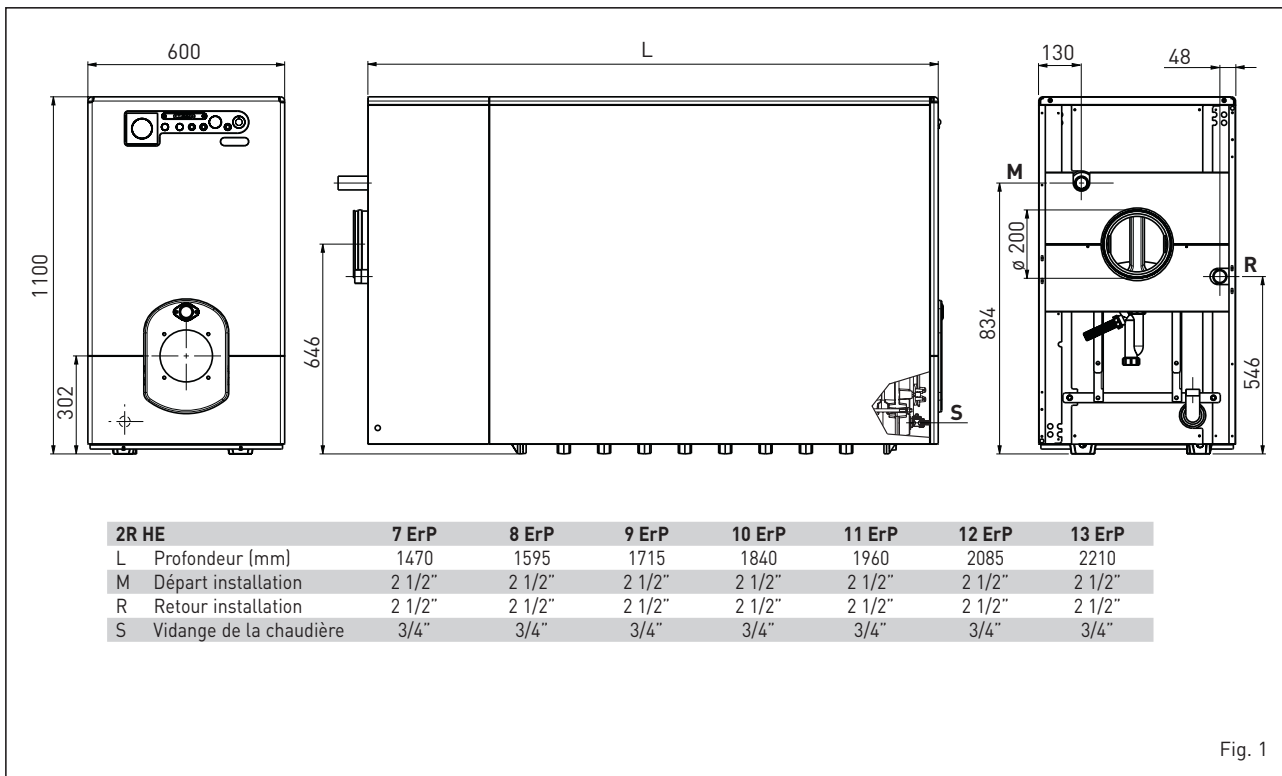

Fig. 1
1.2 DIMENSIONS D'ENCOMBREMENT (fig. 1)